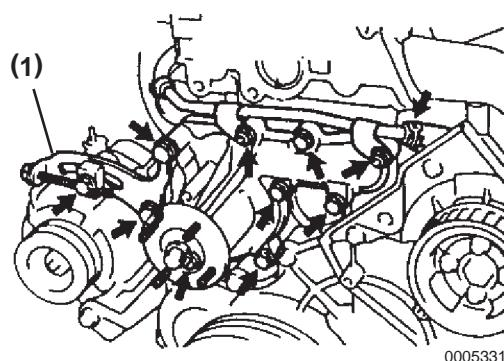

Figure 7-3
6. Remove the three bolts and alternator adjusting bar (**Figure 7-3**, (1)).
7. Remove the six bolts, two nuts, freshwater pump and gasket (**Figure 7-3**).